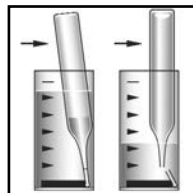

Figure 2
2. Immediately place the Vacu-vial ampoule from which the reagent blank value was generated, tip first, into the sample cup. Snap the tip. The ampoule will fill leaving a bubble for mixing (fig. 2).